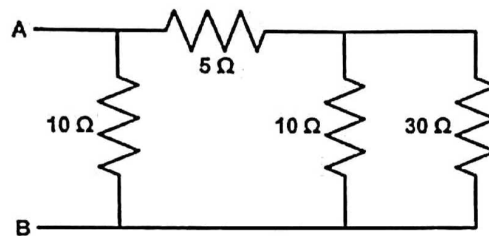

Fig.Q1(b)
- c) Determine the equivalent resistance between terminal AB of the network shown in Fig. Q1(b)